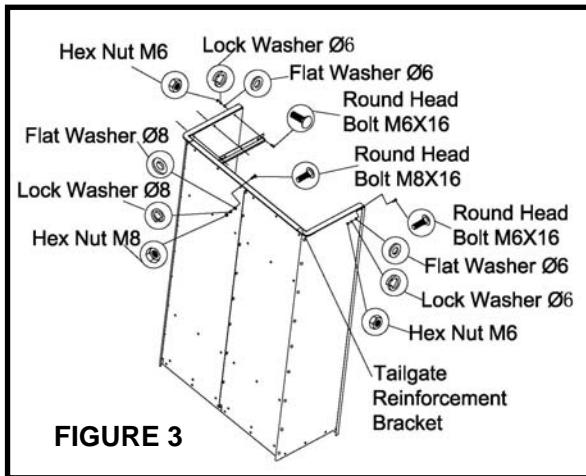

FIGURE 3
6. Position the tailgate reinforcement bracket on outside of cart as shown in figure 3. Assemble the bottom of the cart body using six Round Head Bolt M8x16, Flat Washer Ø8, Lock Washer Ø8 and Hex Nut M8. Do Not tighten. See **Figure 3**.
7. Position the tailgate guides with the holes to the rear as shown in figure 3. Assemble the guides to the inside of the cart using six Round Head Bolt M6x16, Flat Washer Ø6, Lock Washer Ø6 and Hex Nut M6. Do Not tighten.
8. Assemble two Round Head Bolt M6x16, Flat Washer Ø6, Lock Washer Ø6 and Hex Nut M6 to the top rear corners of the cart. Do Not tighten. See **Figure 3**.